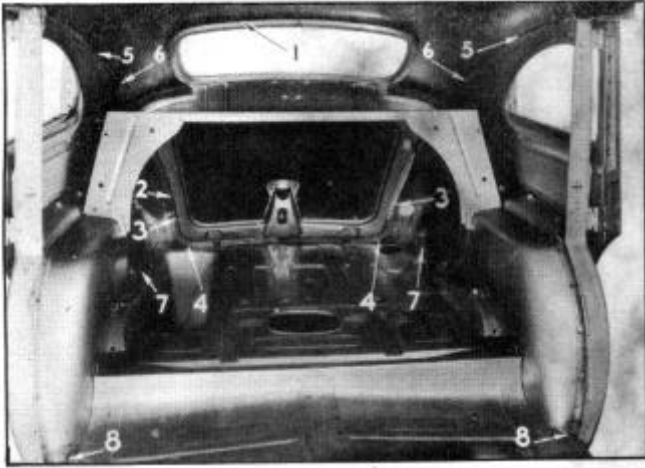

Figure 5--Four Door Sedan - Rear Inside View
The rear window frame (1), Figure 5, is welded to the roof panel and is accurately assembled to the correct size before it is welded in place. Do not disturb this frame - cut around it.
The rear compartment door frame (2), Figure 5, is welded to the roof panel; to the quarter panels at (3) and to the rear lower panel at (4). The frame is accurately assembled and held to the correct size before it is welded to the above parts. Do not disturb the frame - cut around it.
The quarter panel is joined to the roof panel by a flange joint (5), Figure 5, along the body line, which is a continuation of the drip moulding joint and the flange joint ends where the body line
The rear seat tray and rear compartment floor is one stamping and is welded to the rear quarter panel at the wheelhouse at (7 and 8), Figure 5. Break loose all these welds.